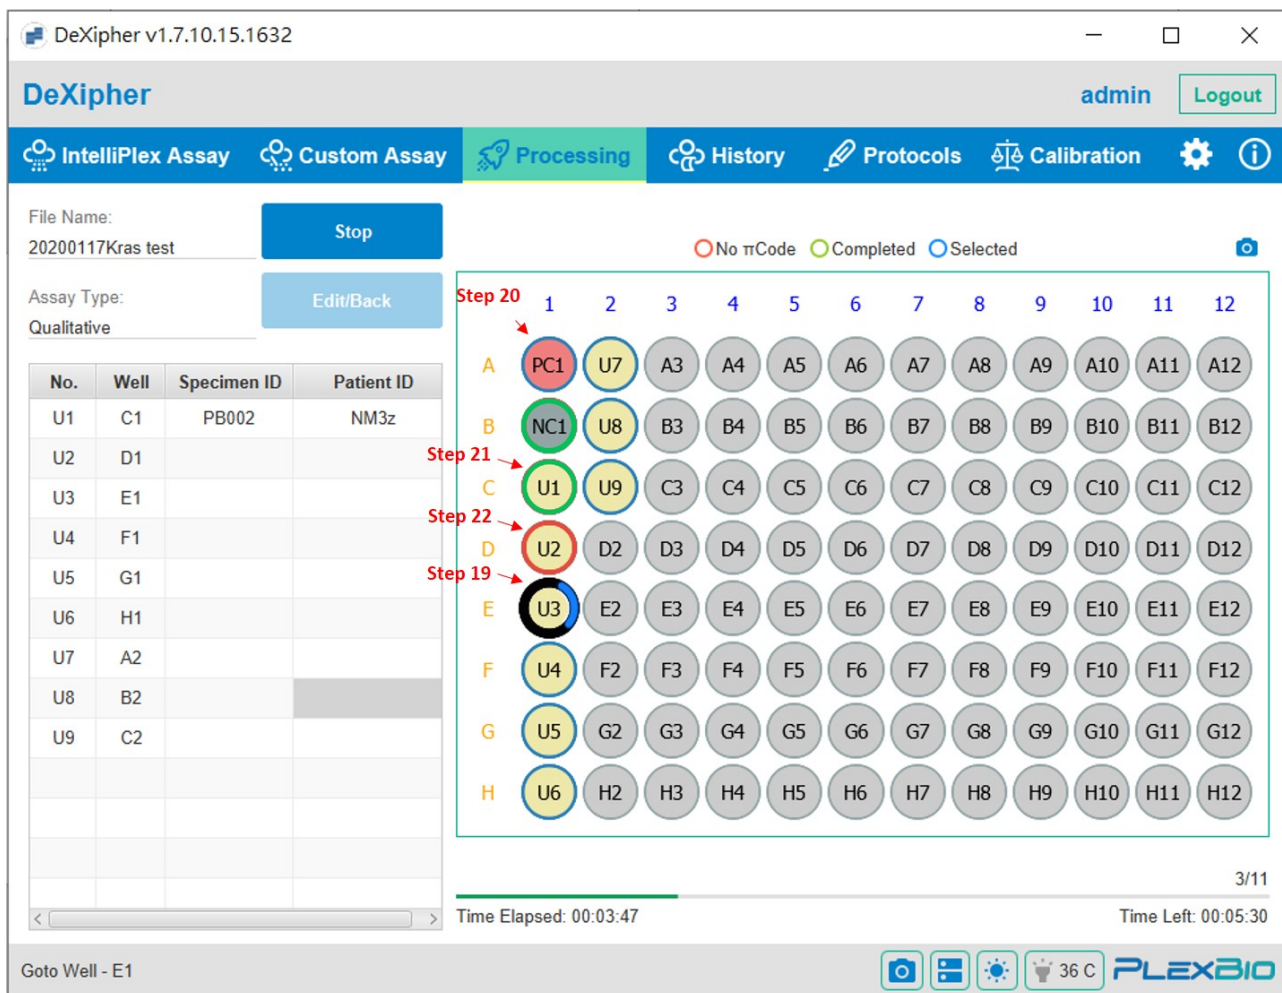

Fig. 16. IntelliPlexAssay - Processing - Run Status
- Step 18. PlexBio 100 Fluorescent Analyzer starts to read selected wells (Fig. 16).